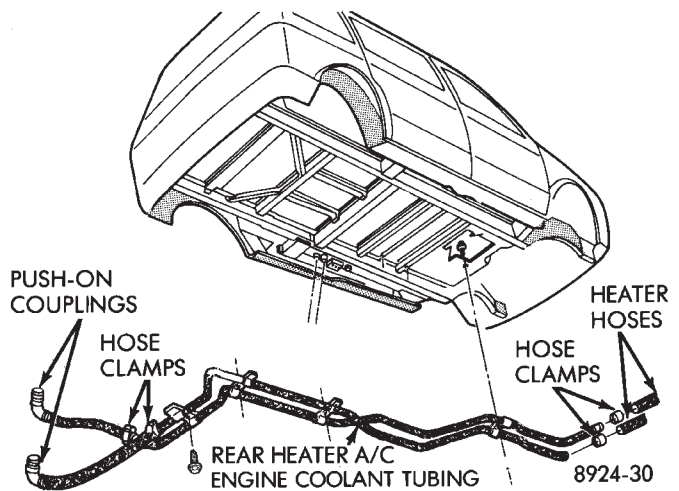

Fig. 2 Rear Heater Under body Plumbing
(1) Drain the engine cooling system. Refer to Group 7, Cooling System.
(2) In the engine compartment, and disconnect two auxiliary rear heater hoses from the (front) heater hose tee fittings.
(3) Hoist the vehicle. Disconnect two push-together couplings from the auxiliary rear heater core tubes protruding through the floor pan.
(4) Remove four bolts and one pal nut holding the plumbing to the floor pan and lower the plumbing from the vehicle (Fig. 2).